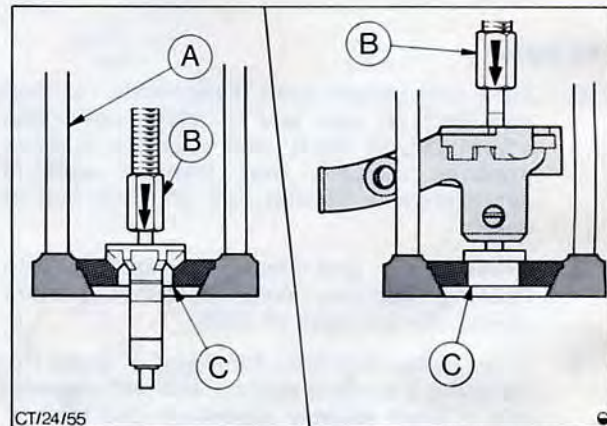

Fig. 13. Pressing impeller from bearing shaft assembly and pump pulley hub onto front end of shaft
3. Support impeller over a split ring mounted in press, Fig. 13, taking care that impeller blades are clear of slots between two halves of split ring. Press shaft through impeller.